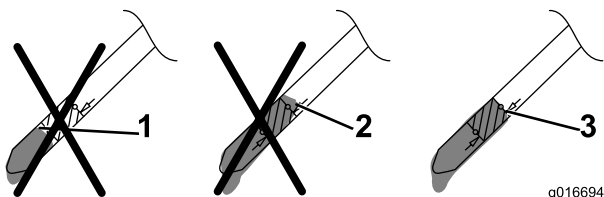

**Figure 31**
6. Remove the dipstick and drain the used oil into the oil-drain pan (Figure 31).